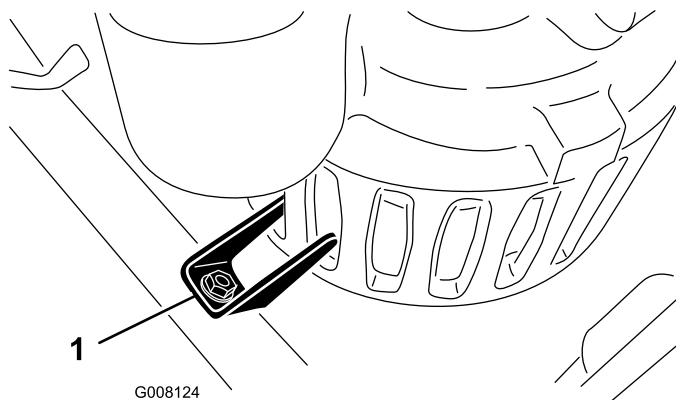

Figure 16
13. Insert the pump into the frame and slide it forward until the keeper tab fits into the slots of the pump (Figure 16).